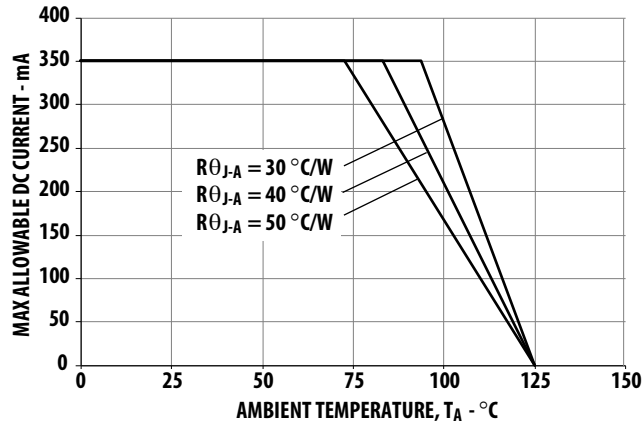
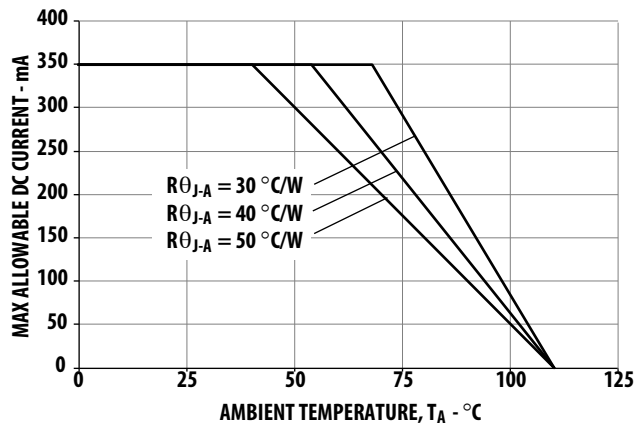

Figure 5. Maximum forward current vs. ambient temperature for AlInGaP
Figure 13. Maximum Forward Current vs. Ambient Temperature for InGaN Derated based on $T_{JMAX} = 110$ °C, $R_{\theta JA} = 30$ °C/W, 40 °C/W and 50 °C/W
1. DC forward current – derate linearly based on Figure 5 for AlInGaP and Figure 13 for InGaN.